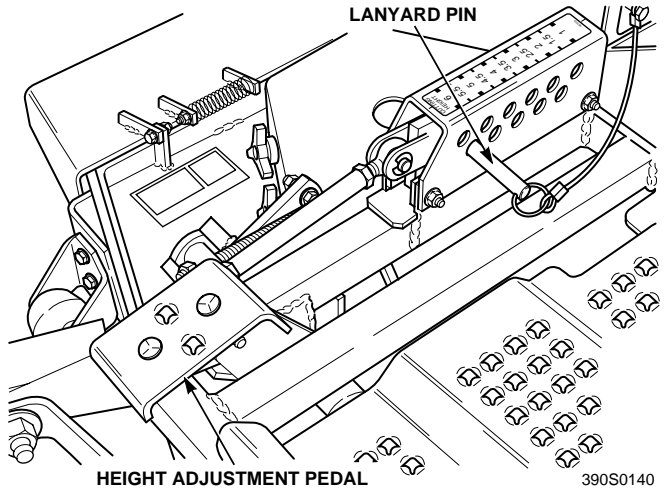

Figure 4-6 Adjusting Cutting Height
2. Push the cutting height adjustment foot pedal all the way forward using your right foot until it locks in place. (Figure 4-6).
3. Insert the lanyard pin into the cutting height index at the desired cutting height. Push forward on the deck lift foot lever, hold in place and lift up on the deck release lever, (Figure 4-7). Slowly release the foot pedal. A deck height decal is located on the cutting height index as an aid in adjusting the deck to the desired height. (Figure 4-6).